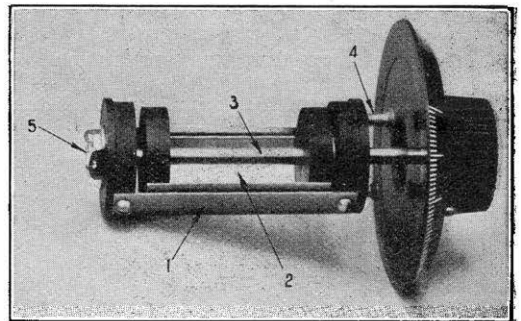

Fig. 10. A small variable condenser.
- (1) Small auxiliary condensers, termed "vernier" condensers, are not considered to be a satisfactory means of obtaining fine adjustments, because of the extra space occupied. A condenser of this sort is illustrated in Fig. 10. The fixed plate is marked 1, and the moving plate 2; 3 is the spindle, 4 the fixing screws, and 5 the contact with the moving plate.